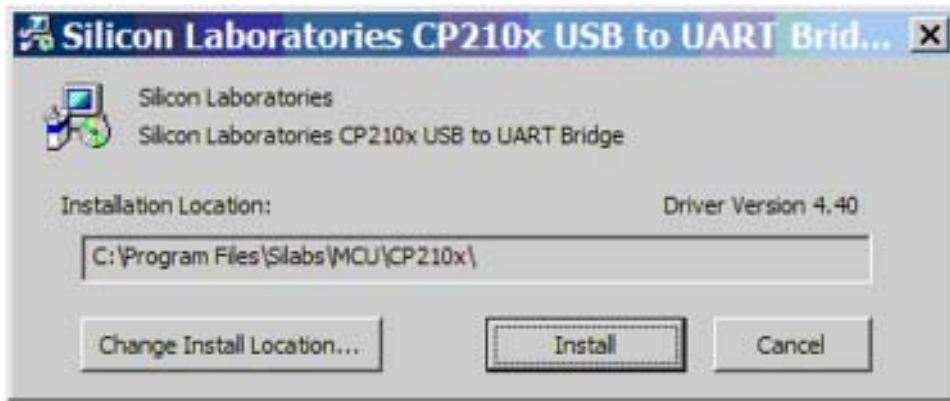

FIGURE 3
3. Select "USB Driver" to install the USB driver on you computer needed to operate the PAK-LINK Computer Interface. Follow the instructions on the screen. See FIGURE 3.